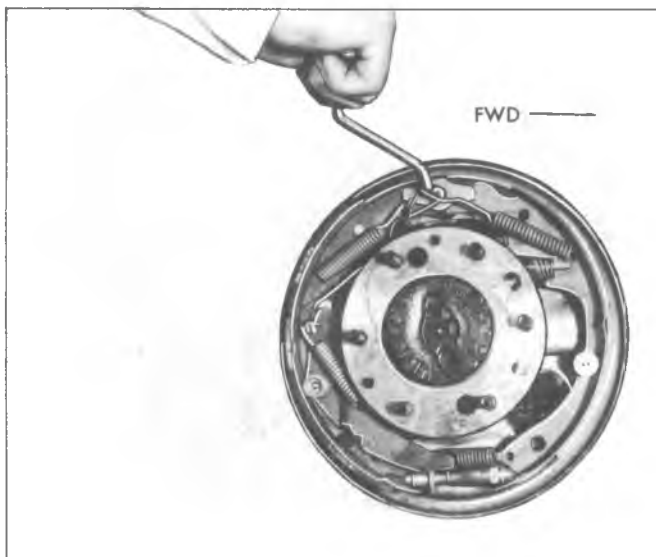

Fig. 24—Installing Pull Back Spring
13. Hook springs in shoes using Tool J-8049 by installing the primary spring from the shoe over the anchor pin and then the spring from the secondary shoe over the wire link end (fig. 24).